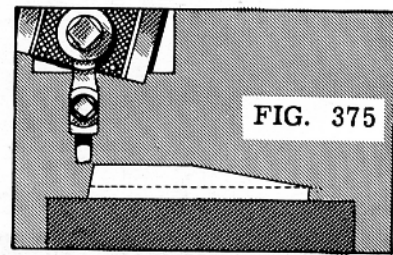

FIG. 375
4. Disengage the feed at the end of the cut (Fig. 375).